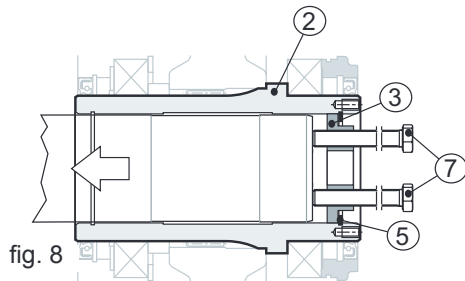

fig. 8
remove the anchor bolt (pos. 6), the backplate (pos. 3) and retaining ring (pos. 5) from their relative seats. Turn the backplate over (pos. 3) and then return it to its seat in the gear unit female shaft (pos. 2) and secure it in position with the inner retaining ring (pos. 5). Insert 2 bolts (pos. 7) into the two threaded holes on the backplate (pos. 3) and screw them until they touch the machine shaft (pos. 1). Now give them alternately one full turn each (see Fig. 8).